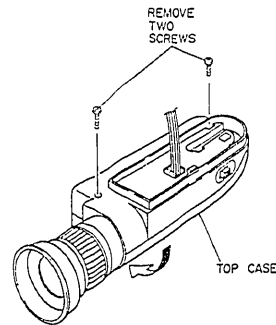

Fig. 2-151
- 1) Remove two (2) screws holding the top case. (See Fig. 2-151)